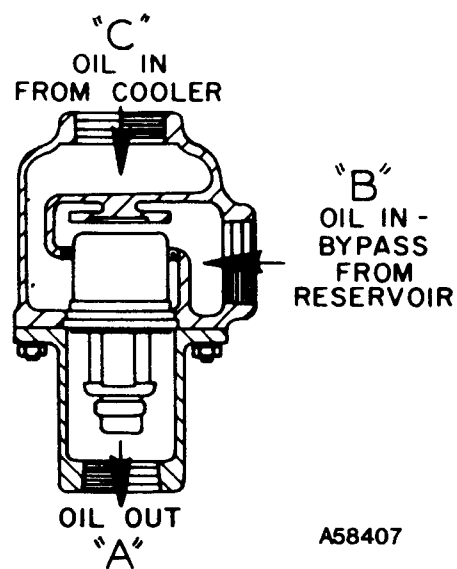

FIGURE 5-5. — THERMOSTATIC MIXING VALVE
**THERMAL CONTROL (THERMOSTATIC MIXING) VALVE** (Figure 5-5) is installed in system as shown in Figure 1-5. This valve is used to control temperature of the oil in both air-cooled radiator and water-cooled heat exchanger type oil cooler systems. On start-up with unit cold, element is open to bypass, allowing oil to pass directly from the reservoir to compressor during warm-up. As oil warms, element gradually closes to the bypass allowing more of the oil from the cooler to mix with oil from the bypass. After the unit is warmed up, mixing valve maintains oil injection temperature into the compressor at a minimum of 150° F. This system provides proper compressor warm-up and prevents moisture contamination of the oil.